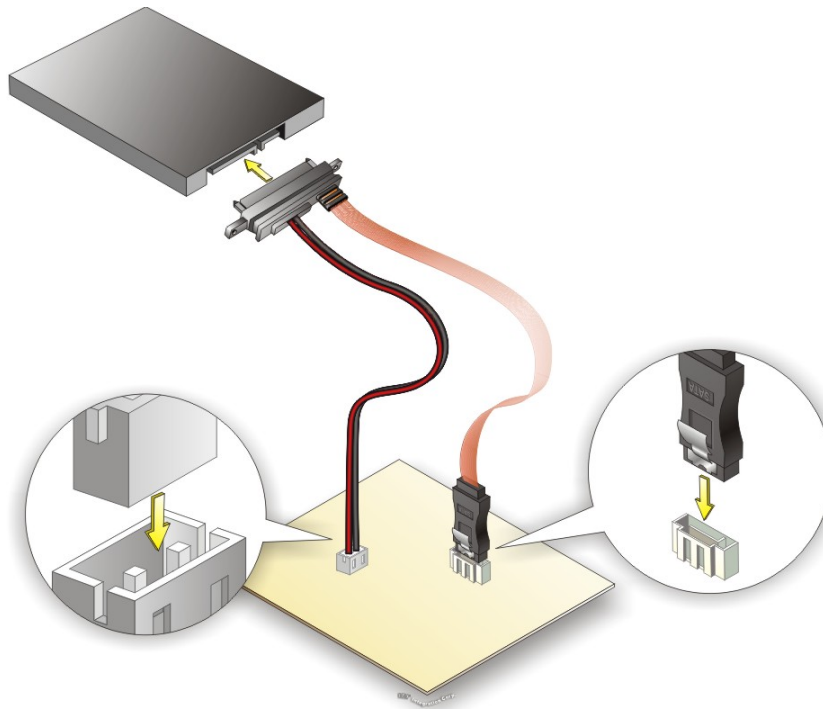

Figure 4-16: SATA Drive Cable Connection
Step 2: Insert the cable connector into the on-board SATA drive connector and the SATA power connector. See **Figure 4-16**.
- Step 3:** Connect the connector on the other end of the cable to the connector at the back of the SATA drive. See **Figure 4-16**.